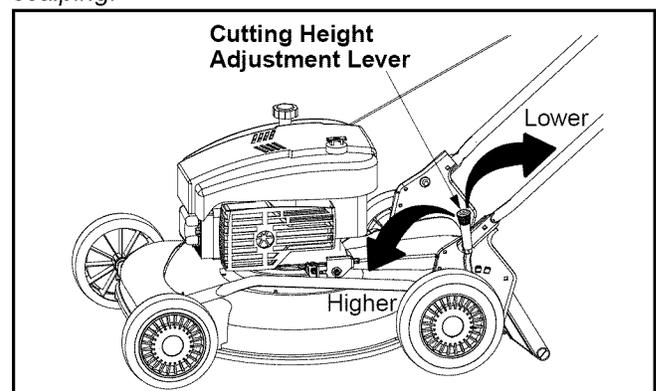

Figure 12
- Pull the lever out and away from the mower and then move it forward or backward to another slot. See Figure 12.